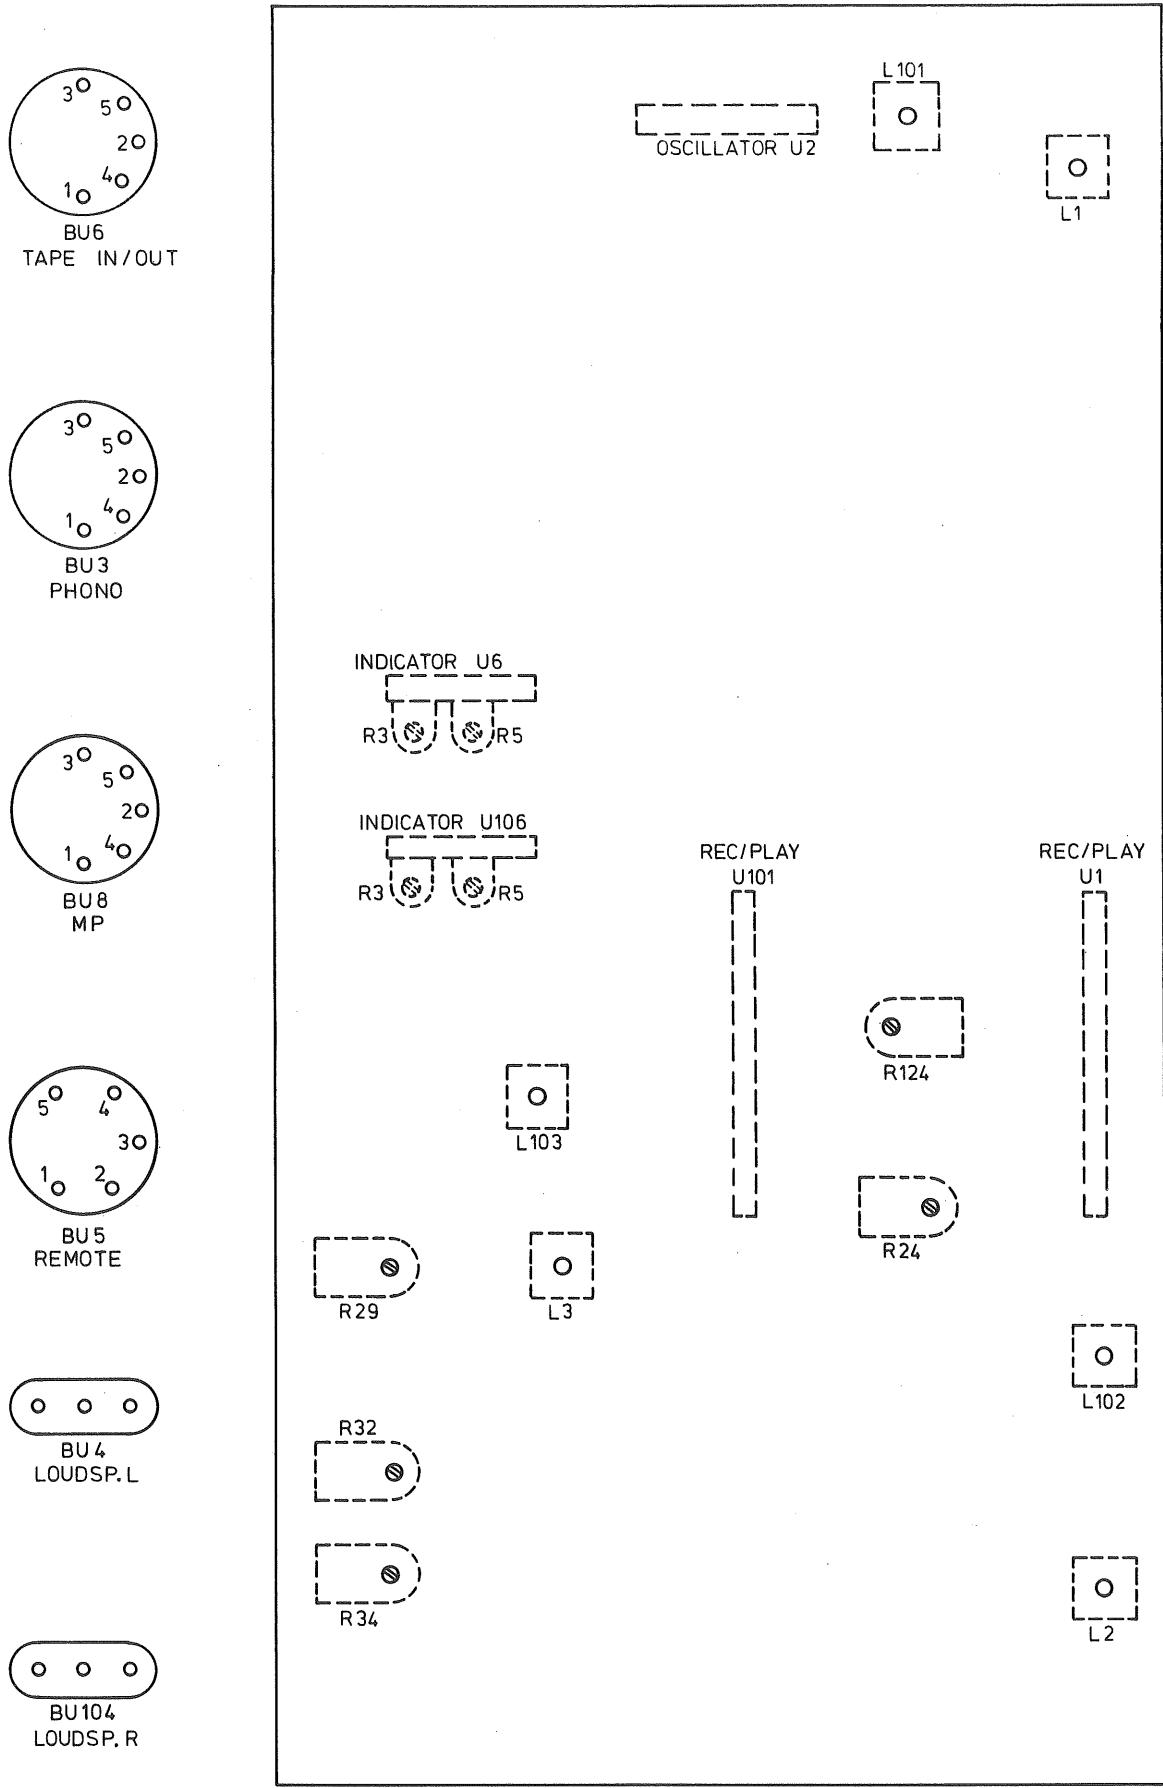

Fig. 9
- The clearance between pulley 78 and pulse head K3 (80) should be 0.15 - 0.2 mm. To be adjusted by loosening screws 17 and moving the head until the clearance is correct. Then tighten and lock-paint the screws.
6. Adjusting the speed (see Fig. 9)
- Now adjust for the correct speed by turning the relevant potentiometer (see Fig. 9 and the table below).